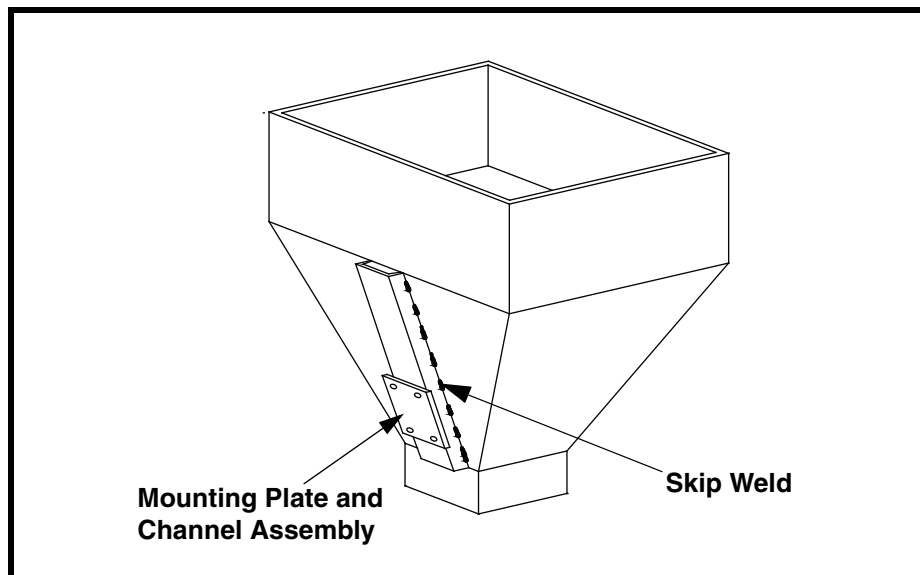

Figure 1. Mounting Plate and Channel Assembly
2. See Figure 1. Locate vibrator in lower 1/4 to 1/3 of structure slope length.